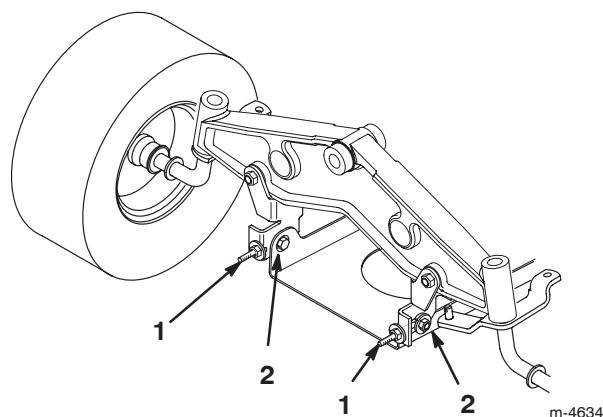

Figure 52
8. To adjust the front-to-rear blade slope, loosen the front pivot plate mounting bolts slightly (Fig. 52).
9. Rotate the locknuts on the eyebolts to change the adjustment (Fig. 52). To raise the front of the mower, tighten the eyebolt locknuts. To lower the front of the mower, loosen the eyebolt locknuts.
11. When the front-to-rear slope is correct, tighten the pivot plate mounting bolts (Fig. 52).